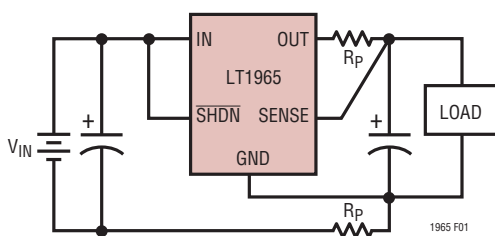

Figure 1. Kelvin Sense Connection
**SENSE (Pin 3 / 3 / 5 / 5):** Sense. For fixed voltage versions of the LT1965 (LT1965-1.5/LT1965-1.8/LT1965-2.5/LT1965-3.3), the SENSE pin is the input to the error amplifier. Optimum regulation is obtained when the SENSE pin is connected to the OUT pin of the regulator. In critical applications, small voltage drops are caused by the resistance ( $R_P$ ) of PCB traces between the regulator and the load. These drops may be eliminated by connecting the SENSE pin to the output at the load as shown in Figure 1 (Kelvin Sense Connection). Note that the voltage drop across the external PCB traces will add to the dropout voltage of the regulator. The SENSE pin bias current is 100 $\mu$ A at the nominal rated output voltage. The SENSE pin can be pulled below ground (as in a dual supply system where the regulator load is returned to a negative supply) while still allowing the device to start and operate.